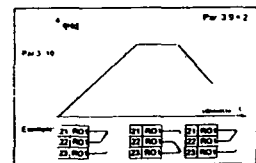

Figure 6-5-10 Output frequency supervision
- The frequency value to be supervised by the parameter 3 9 (3 11) See figure 6-5-10